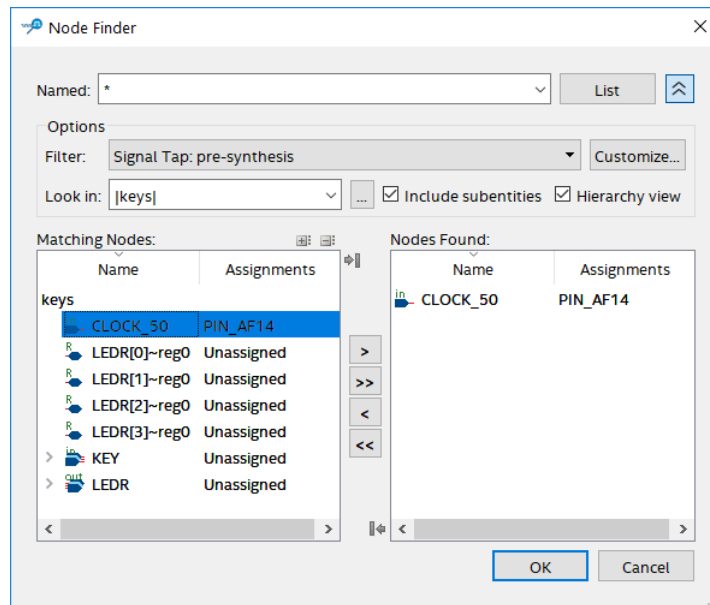

Figure 8. Setting CLOCK\_50 as the clock for the SignalTap instance on a DE-series board.
- Before the SignalTap analyzer can work, we need to specify what clock is going to run the SignalTap module that will be instantiated within our design. To do this, in the Clock box of the Signal Configuration pane of the SignalTap window, click , which will again bring up the Node Finder window. Select List to display all the nodes that can be added as the clock, and then double-click CLOCK\_50, which results in the image shown in Figure 8. Click OK.